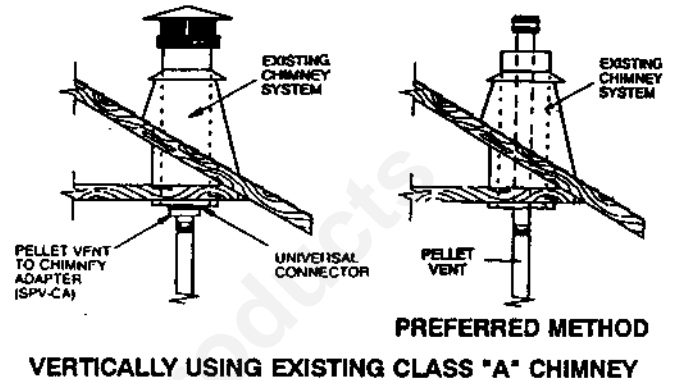

Figure 6
C. VERTICALLY INTO EXISTING CHIMNEY SYSTEM (see figure 6)